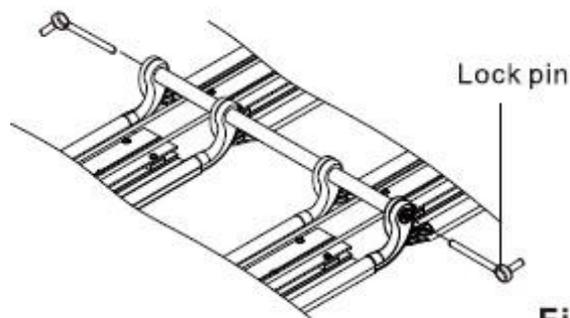

Fig. 12
- C. For workouts 6.7 and 8, or not in use of the machine, just insert the lock pins into the rotational axis.(see Fig.12)